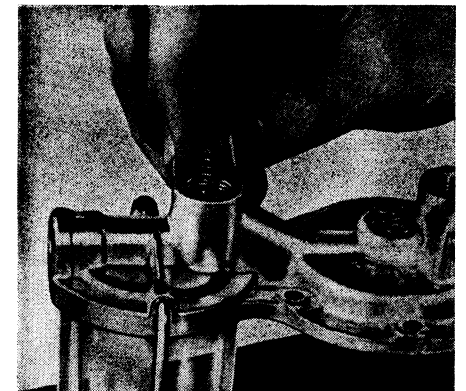

Fig. 16 Series B. Installing spring over inlet valve
- Place a new inlet valve coil spring, Fig. 16, on top of the inlet valve.